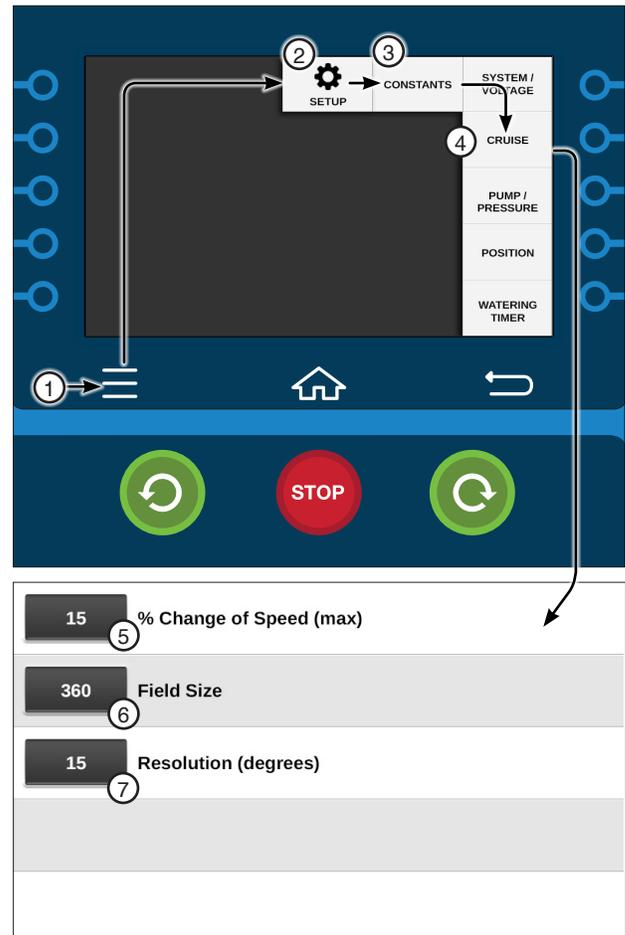

Figure 27-1 1. Menu 5. % Change of Speed
The Cruise Control settings for the % Change Of Speed (max), Field Size and Resolution constants can be viewed or changed from the Constants screen. Refer to Figure 27-1.
1. Push **Menu**, **Setup**, **Constants** and **Cruise** to display the Cruise screen. Refer to Figure 27-1.